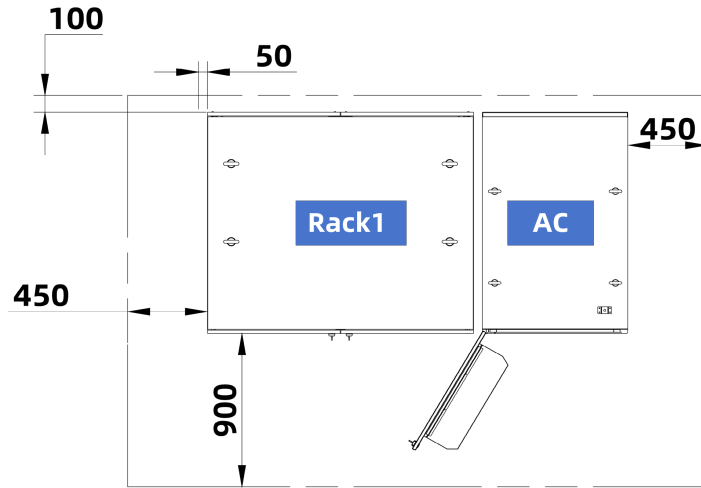
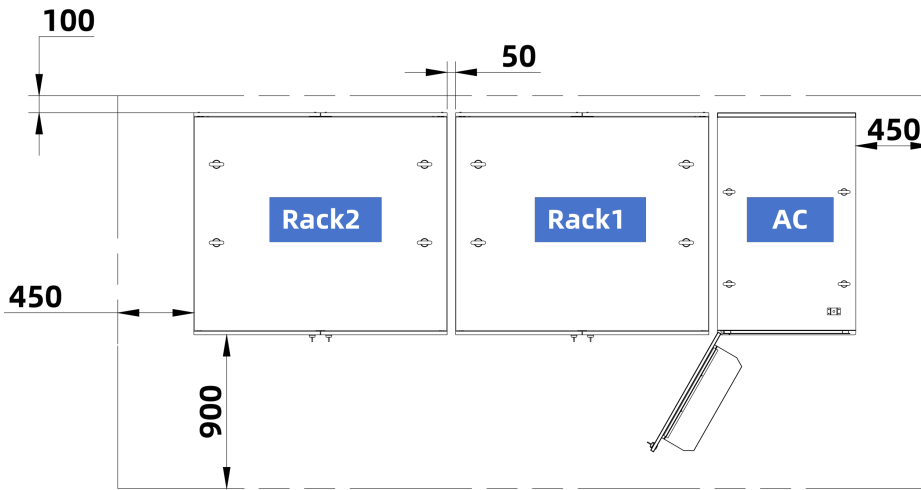
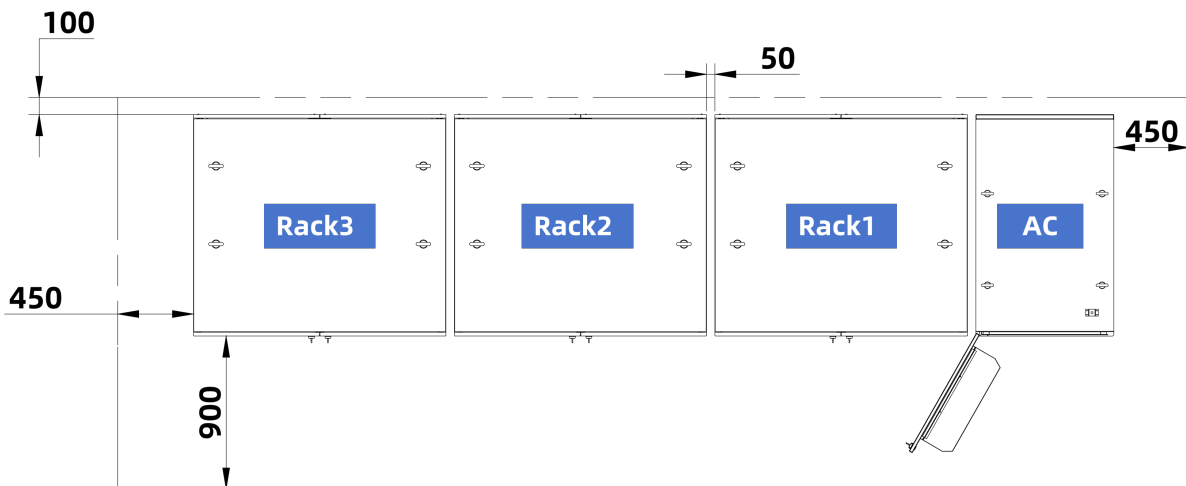

Figure 6-1: Space requirement: 1TC+1TB
Figure 6-2: Space requirement: 1TC+2TB
Figure 6-3: Space requirement: 1TC+3TB
The following figures specifies minimum clearance distances and orientation requirements for the ESS installations (Unit:mm). Figure 6-1, Figure 6-2, and Figure 6-3 correspond to configurations with one AC control cabinet (TC) paired with one, two, and three battery cabinets (TB), respectively.